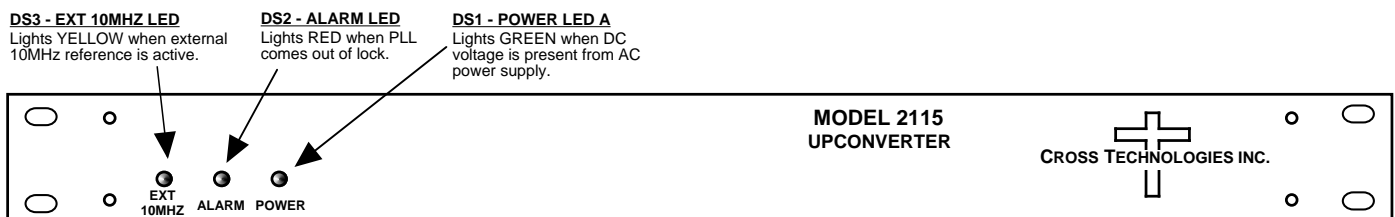

FIGURE 2.2 2115-278# Front Panel Controls and Indicators
4. Be sure DS1 (green, DC Power) is on and DS2 (red, Alarm) is off (Figure 2.2).
6. If EXT is selected or AUTO is selected and there is a 10MHz, 3 dBm signal at J2, check that DS3 (yellow, Ext 10MHZ) is on (Figure 2.2).